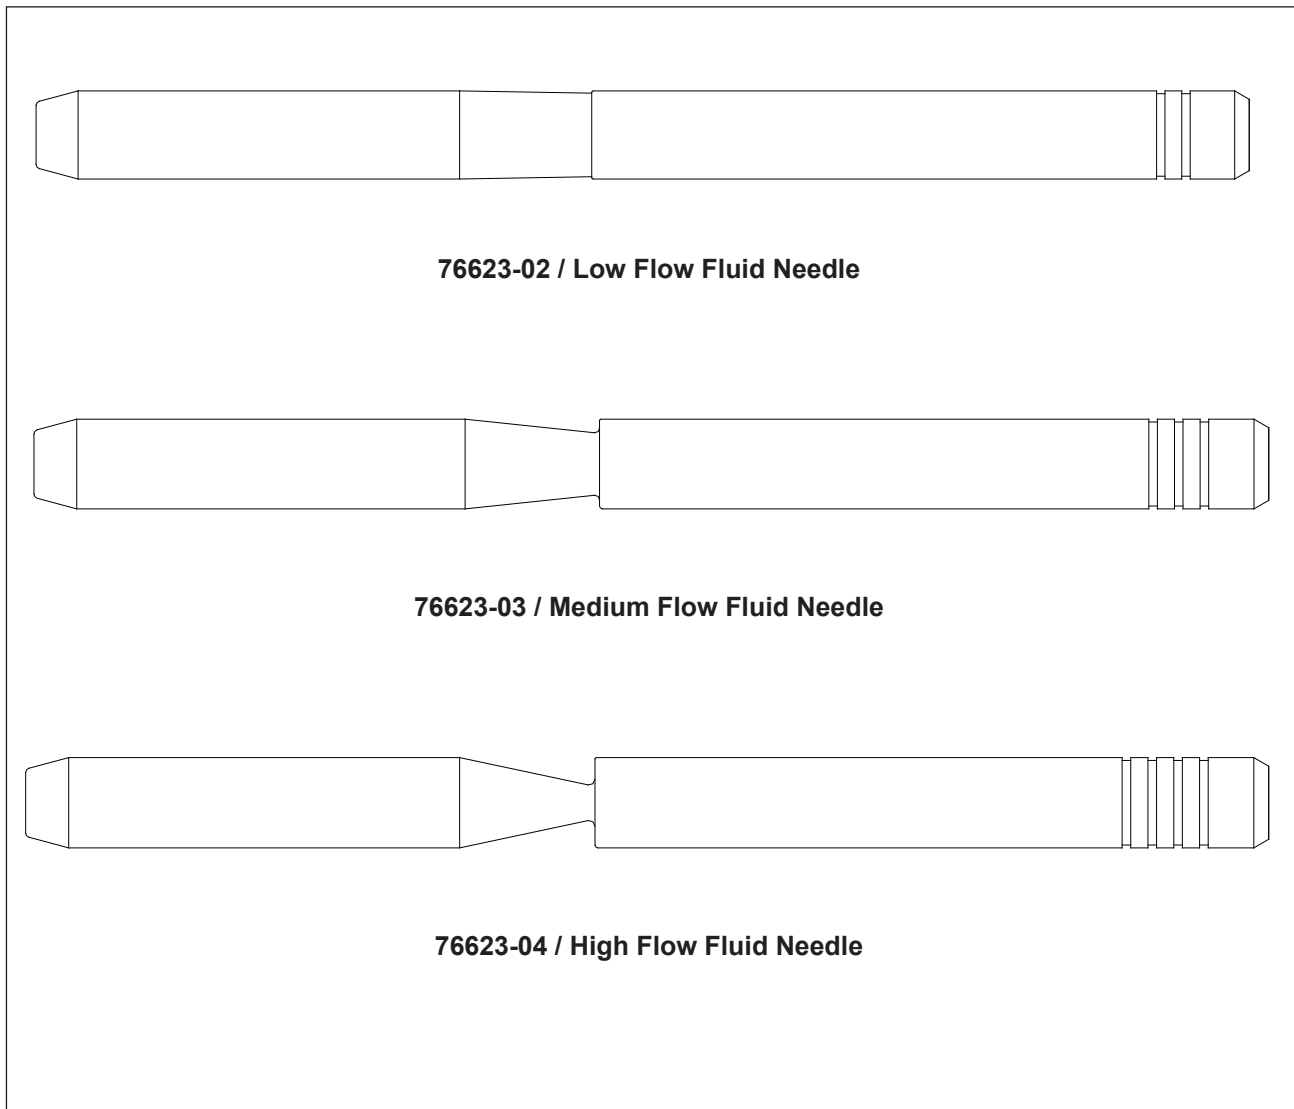

Figure 2: Weepless MVR Fluid Needles
- ▶ When replacing MVR fluid needles, use Figure 2 below and Weepless MVR Assembly "Part Number Options Chart / Column C" in the "Parts Identification" section to determine the correct size and part number. The number of grooves at the top of the needle correlates to the dash number of the part number.